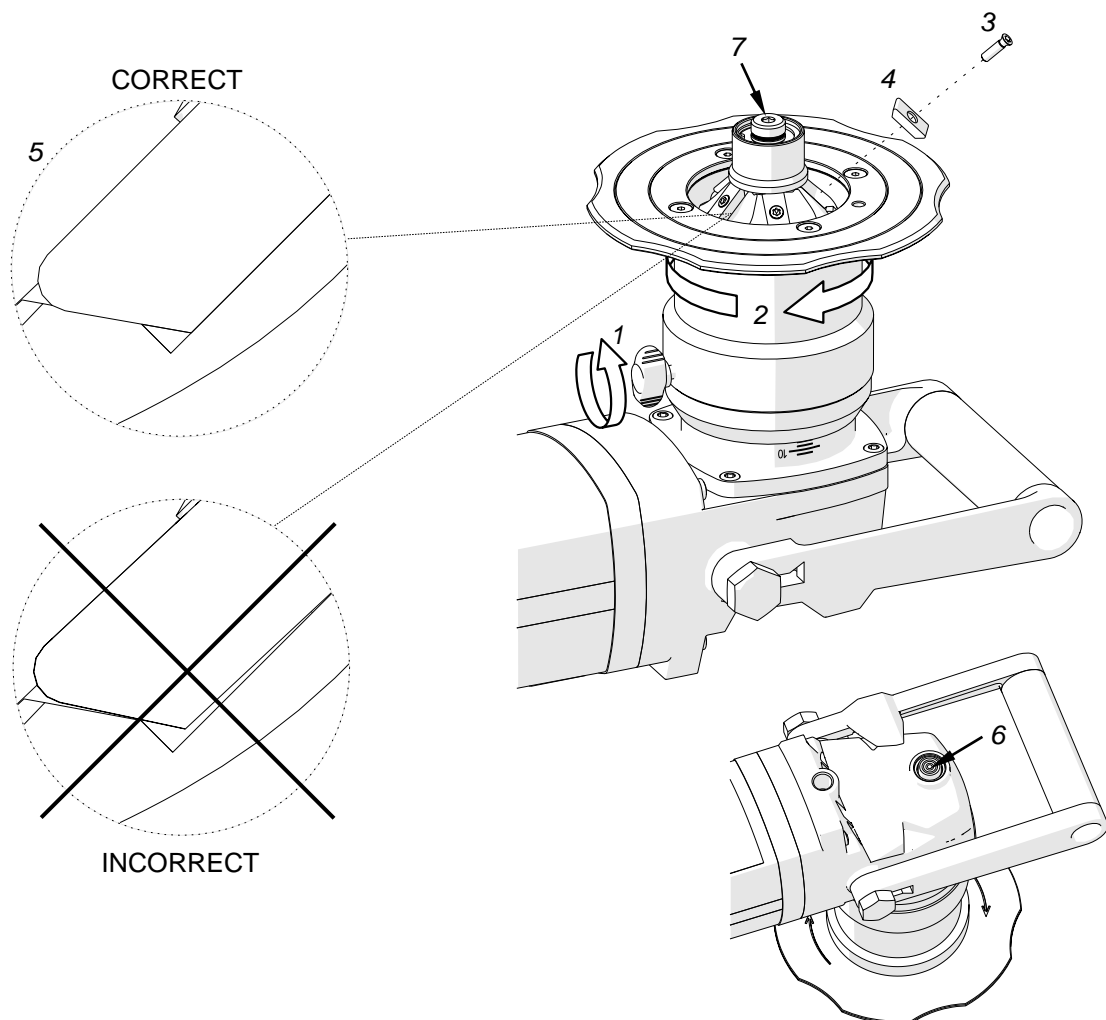

Fig. 7. Replacing the cutting inserts
Unplug the machine from the power source, and place the machine upside down. Next, loosen the clamping screw (1, Fig. 7) to access the milling head, and lower the sleeve as far as possible by rotating it to the right (2). Then, use the screwdriver supplied with the milling head to unscrew the screw (3), and remove the cutting insert (4). Clean the socket, and then rotate the insert and install again or replace with a new one if all possible to use edges are worn. Next, push and tighten the insert. The entire bottom of the insert must be in full contact with the surface of the socket (5).